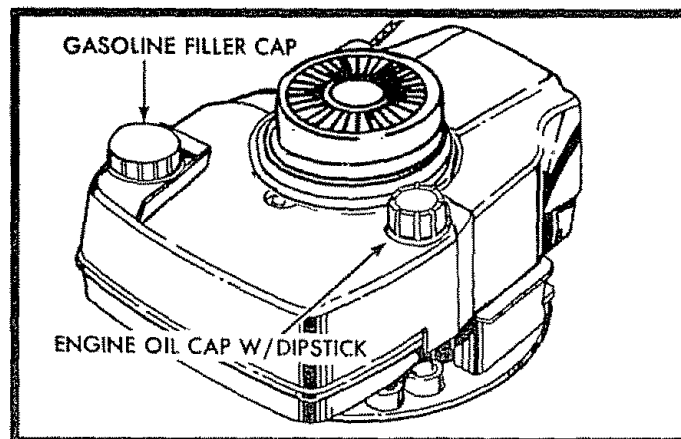

FIG. 8
- Remove Engine Oil Cap (See Fig. 8) and fill to the FULL line on the dipstick.
- Fill gasoline tank with fresh, clean unleaded gasoline. **DO NOT USE PREMIUM GASOLINE. BE CAREFUL NOT TO OVERFILL TANK (SEE FIG. 8).**